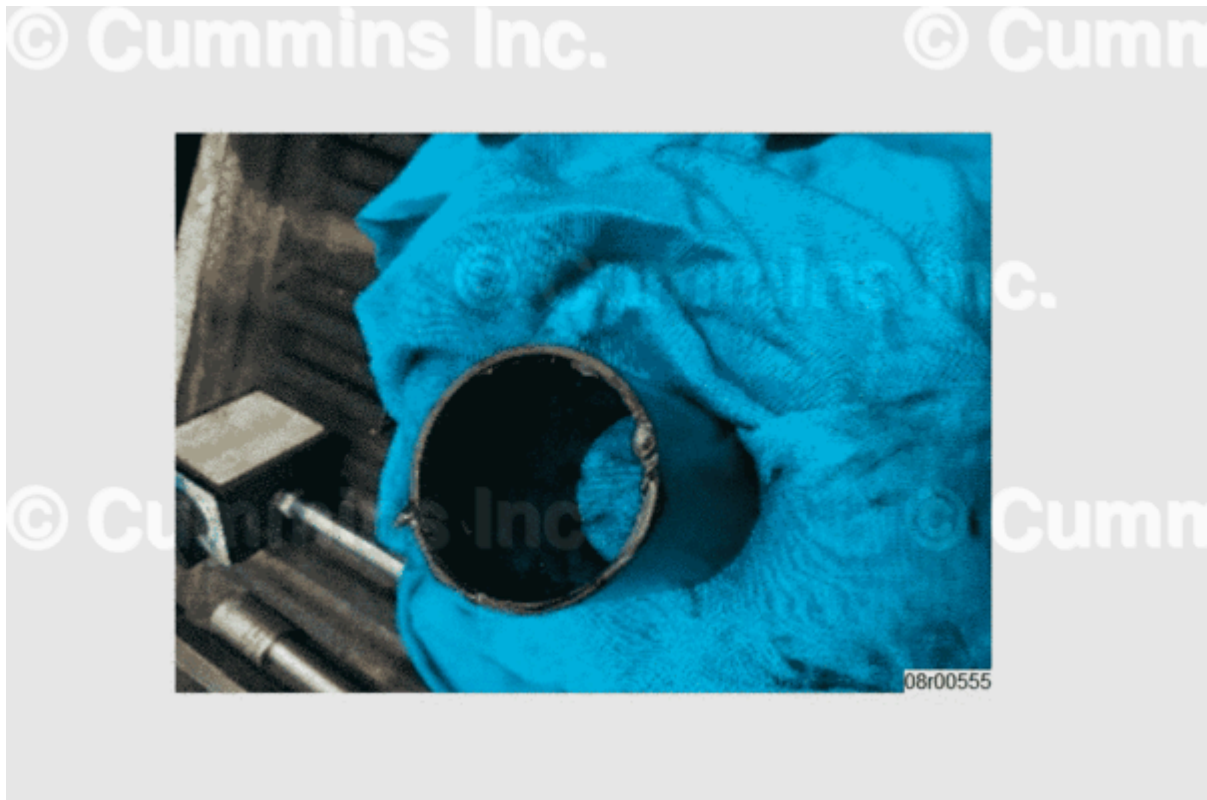

Figure 2, Nylon Sleeve Edge Loaded.
- If idler lever pulley sleeves have excessive wear and or have seized condition (see Figure 2 below), replace sleeves with four new bronze oil impregnated sleeves.